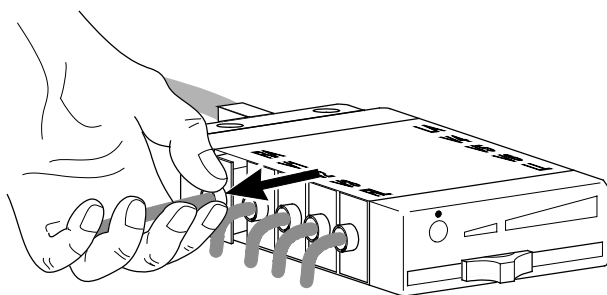

Figure 5-1. Replacing an leadwire
- \* Remove the damaged leadwire from the electrode distributor, grasping the leadwire directly at the connection (Figure 5-1).
Always hold the connector as shown in Figure 5-1. Do not force the connector into the socket and take care that it is properly inserted. Otherwise there may be problems with the tightness of the system and with the necessary contacts. Also take care to insert the leadwires in the correct sockets, observing the lead designations printed on the distributor housing.